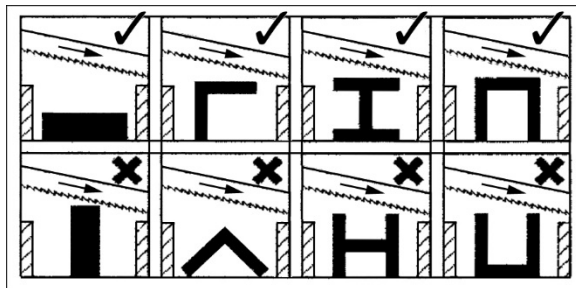

Figure 9-1: clamping positions
- Position workpiece in vise and tighten vise. Workpiece should be fitted directly between the jaws without adding other objects. When workpiece is profiled section, flat piece or special shape, refer to examples in Figure 9-1 for proper clamping positions. The top row shows acceptable clamping positions, the bottom row shows unacceptable positions.